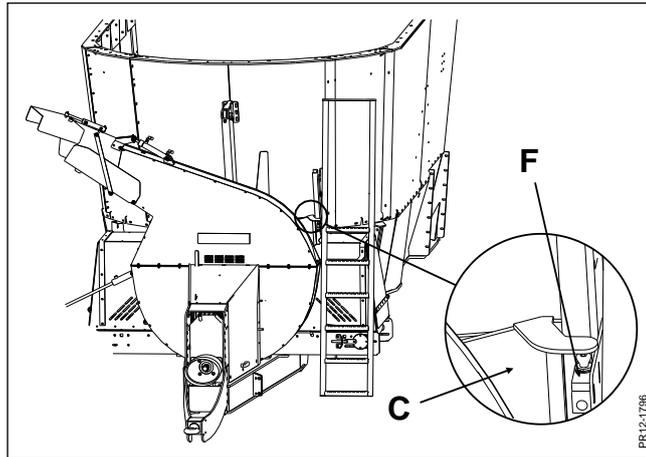

Fig. 2-5
**Fig. 2-5** When (C) has been moved down the contact (F) is established, which enables the straw feeding rotor to rotate. When (C) is moved up and (F) is no longer in contact, the straw feeding rotor can not rotate.